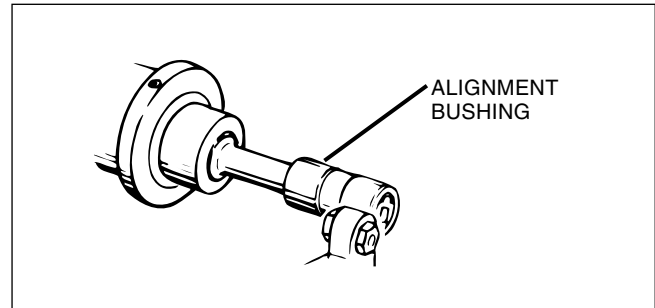

FIGURE 2-9, Alignment Bushing
1. Select a concentric alignment bushing with a bore size close to final honed bore size (see Sunnen Honing Supplies Catalog). Place alignment bushing on mandrel so that it is centered on stone and shoe section of mandrel (see Figure 2-9).